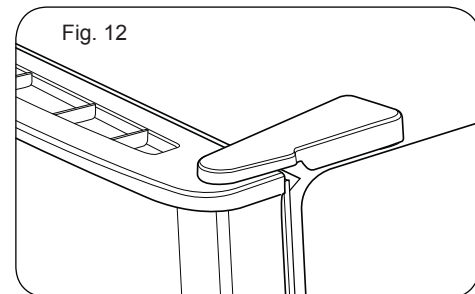

Fig. 12
- Carefully, force the top hinge cover back into place over hinge (See Figure 12).